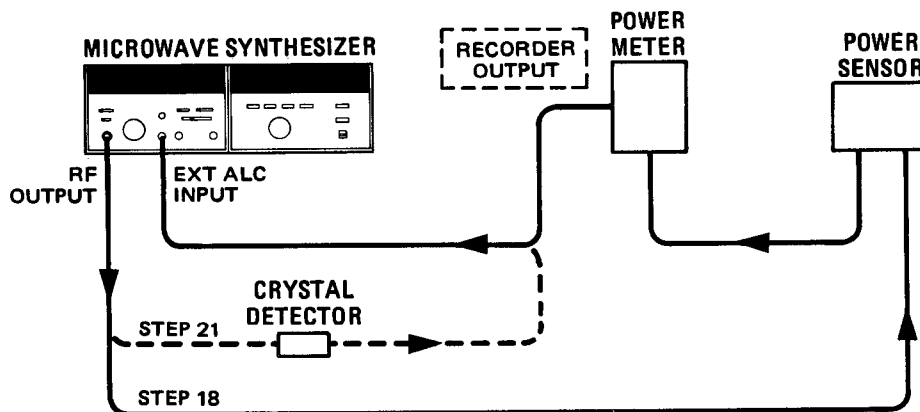

Figure 3-4. Operator's External ALC Checks Test Setup
18. Set the RF Switch 27 to OFF, and the ALC selector 17 to PWR MTR. Connect a power meter and power sensor as shown in Figure 3-4. The Recorder Output from the power meter may be either positive or negative polarity.
21. Connect a crystal detector as shown in Figure 3-4. Set the ALC selector 17 to XTAL.